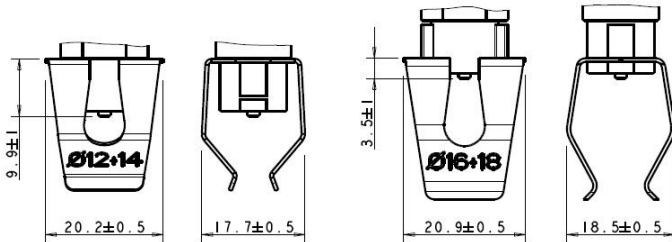

Fig. 5
ST11 can be fixed to pipes having a diameter of 12mm, 14mm, 16mm, 18mm or 20mm by means of a fixing clip as shown in Fig.5. This clip is available in two versions: for tubes from 12-14mm and 16-18mm, it's easily removable and, according to the pipe on which it is to be mounted, is inserted in the first or second position of the probe (see Fig. 5). In order to improve the thermal contact, conductive paste can be placed between the probe and the pipe.
- Fixing clip (Fig. 5).